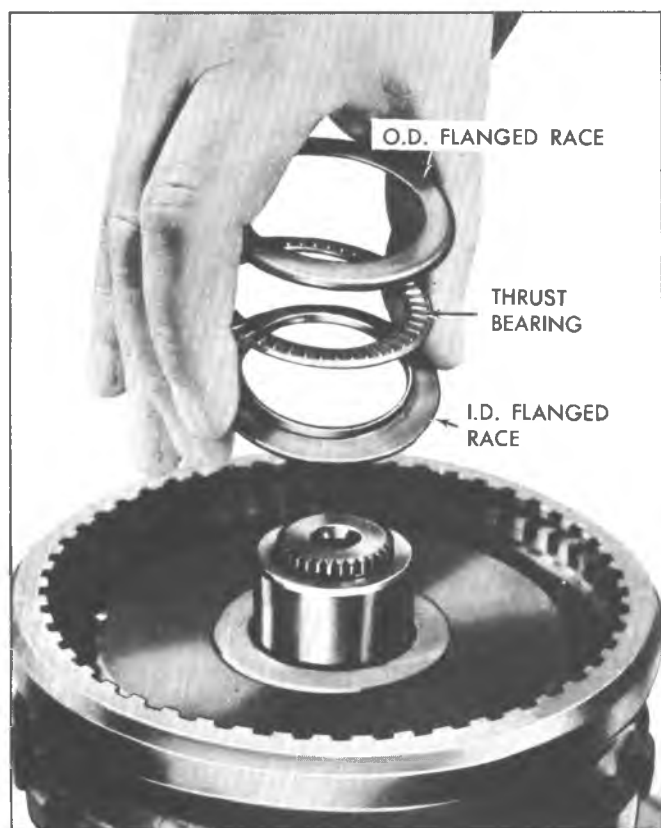

Fig. 118T--Installing Rear Internal Gear to Output Shaft Bearing and Races
6. Install rear internal gear to output shaft thrust races and bearings as follows and retain with petrolatum (fig. 118T).